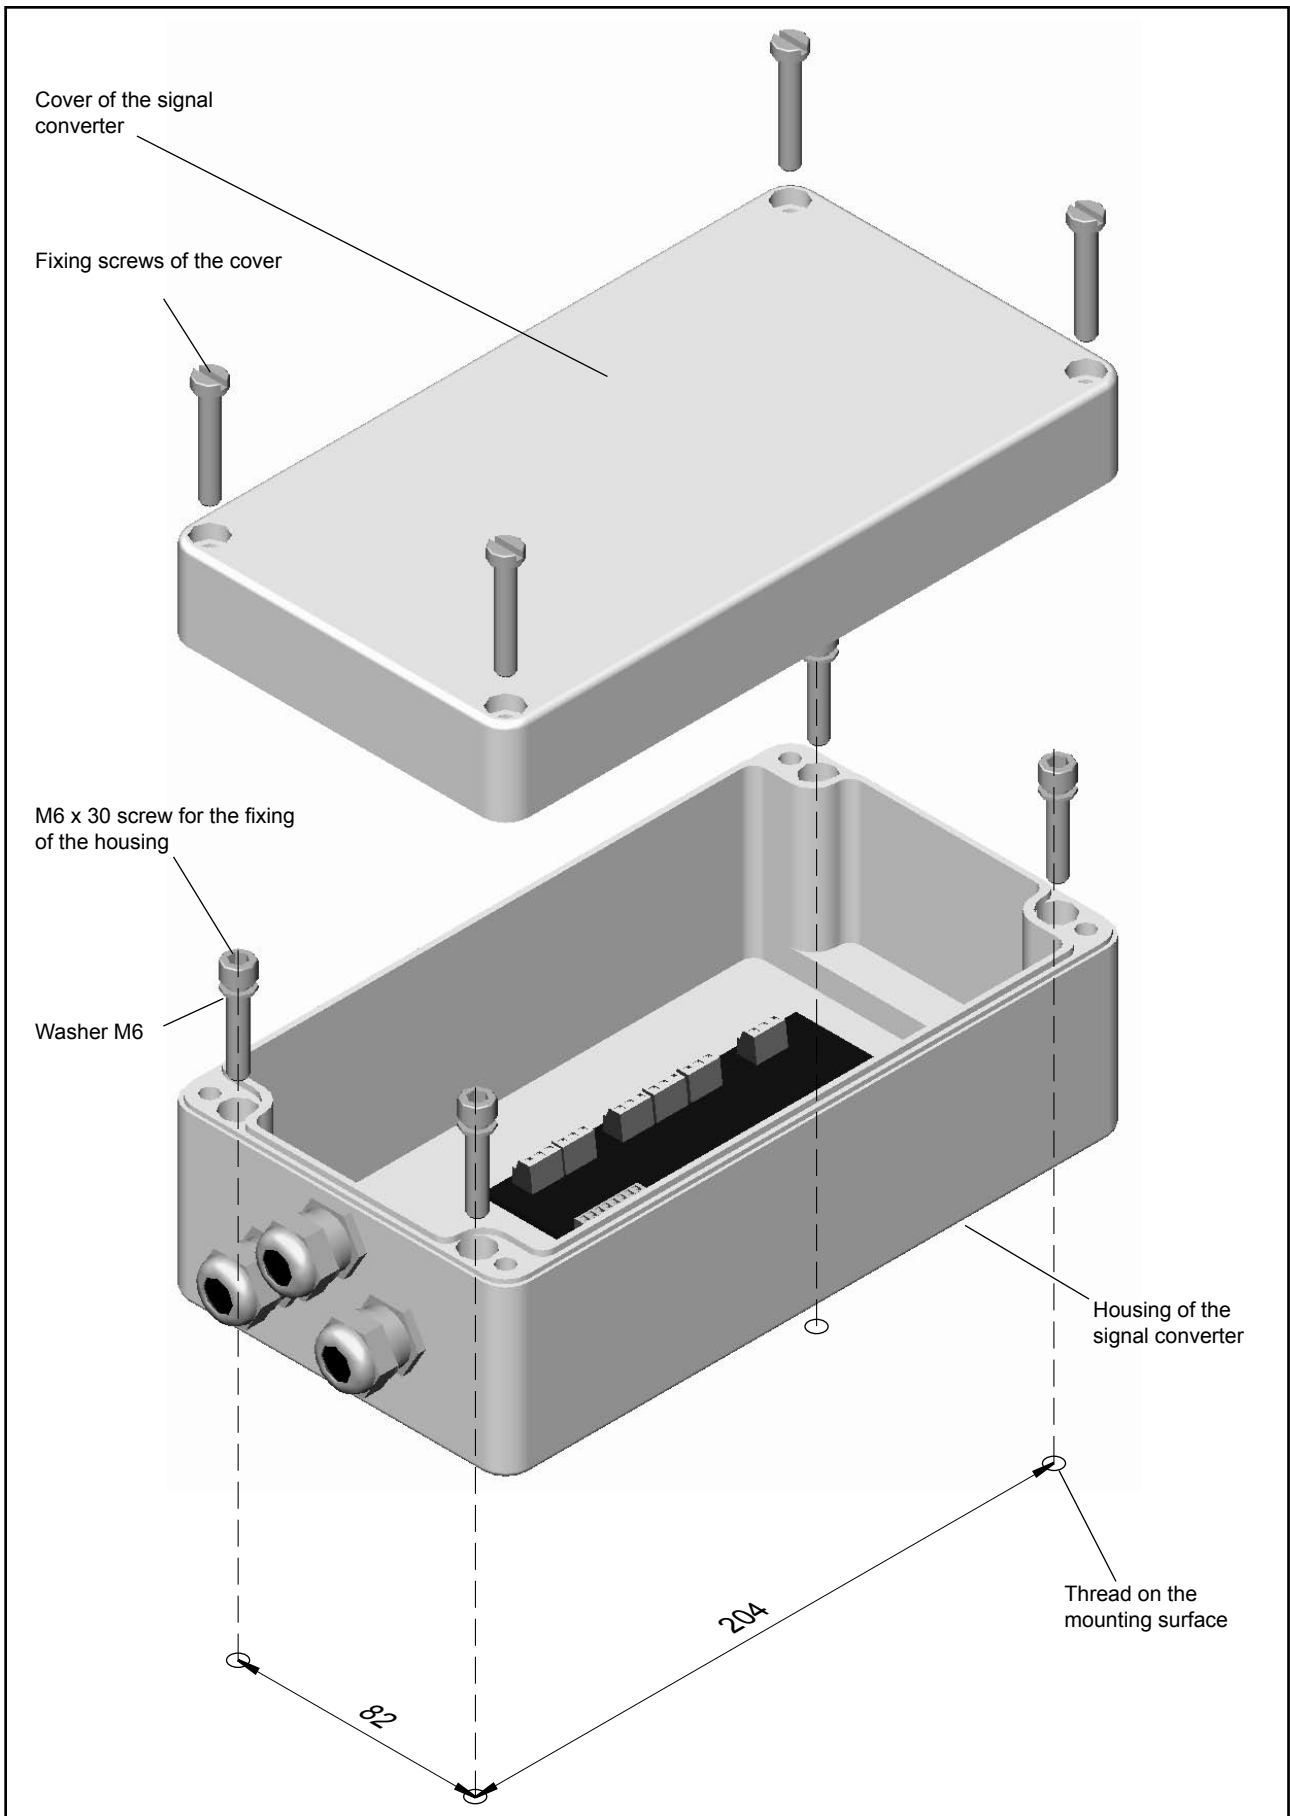

Fig. 3-2 : Fixing of the CST 113 with aluminium housing
- Trace the position of the 4 screw threads on the mounting surface (refer to figure 3-2)
- Remove the signal converter cover by loosening its 4 screws (refer to figure 3-2).